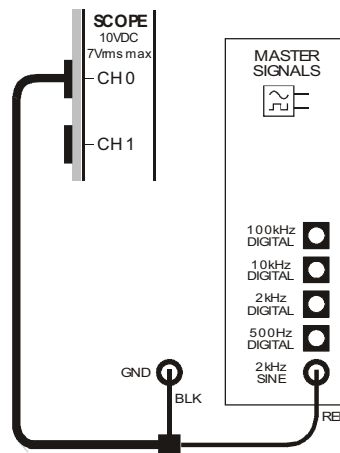

Figure 1
1. Connect the set-up shown in Figure 1 below.